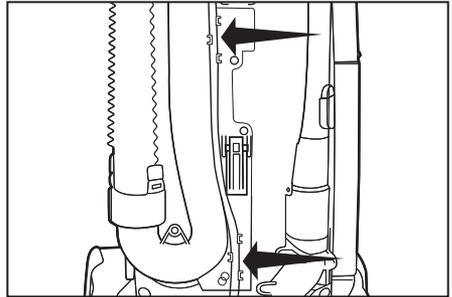

Fig. 2
- Thread the cord through the two cord guides on the back of the vacuum (Fig. 2). *Model R25S only.*